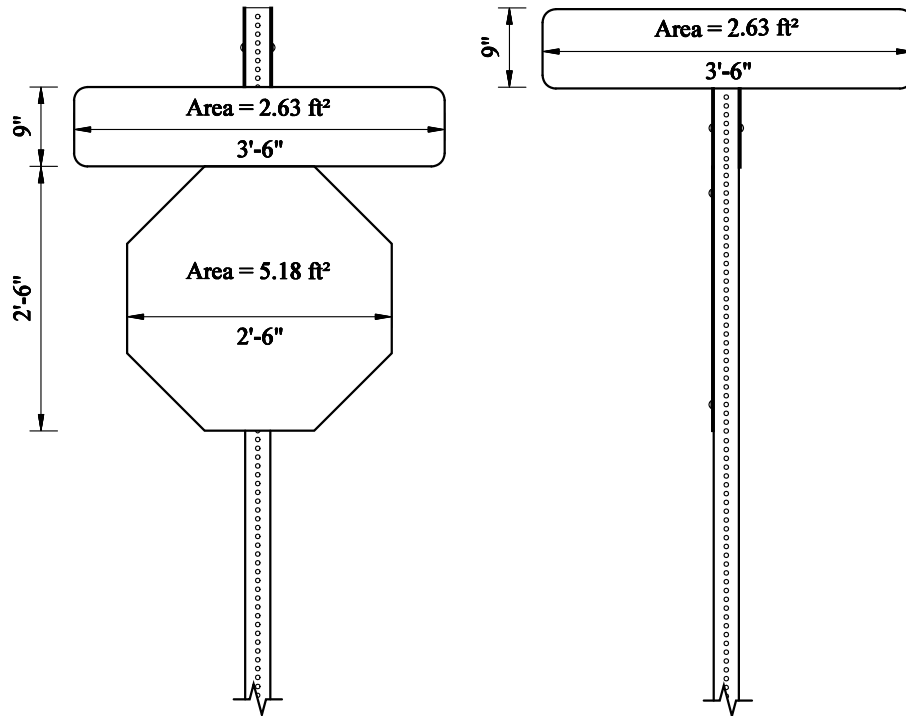

Figure 19 – Design Area Example 2
32. **Design Area:** The largest total surface area of the signs viewed from any given side. In Figure 19, the design area would be 7.81 ft² not 10.44 ft². For the **Non Standard Signs**, the design area is calculated automatically from the **Sign Height** and **Sign Width** fields. If the design area is different than what is calculated, enter in the correct value. The design area is automatically filled in for the **Standard Assembly** and **Variable Length Signs**.
- Hint:** For perpendicular signs, enter in a minus number and this will add post length to the top of the sign. In Figure 19, you would enter a “-9” in the **Sign to Top Post** field.